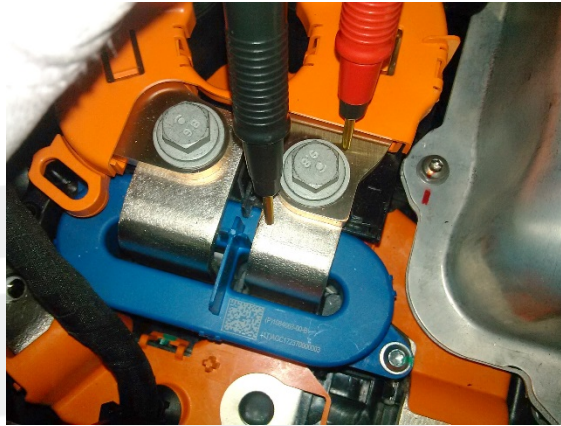

Figure 4
10. Use the Hioki resistance meter to measure the resistance at the HV joint between the HV battery fast charge contactor negative output (RH side) and the negative busbar (Figure 4).